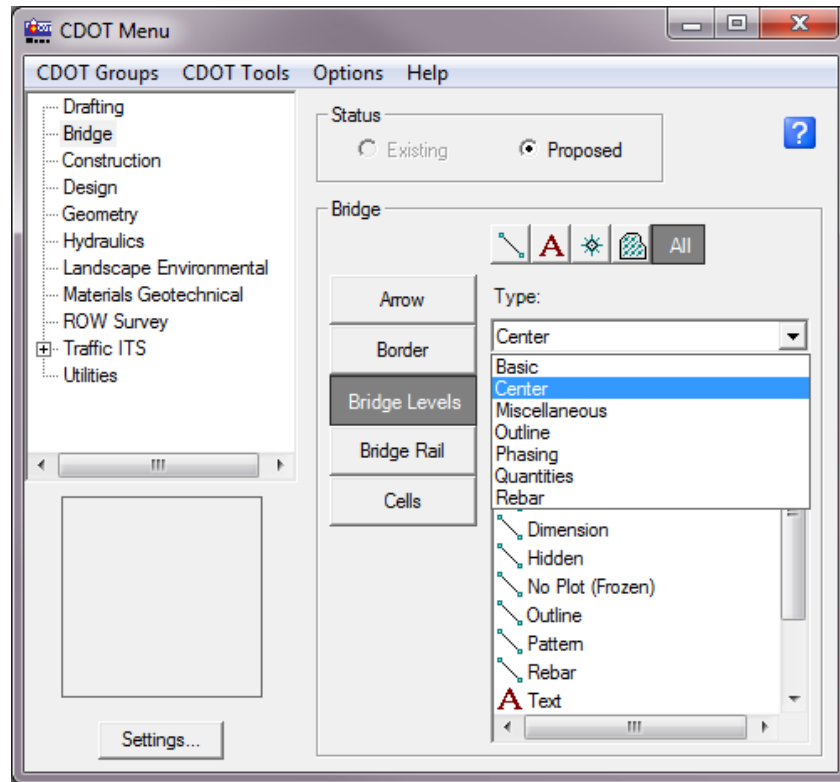

Fig. B.5-2- Bridge Level Selection from CDOT Menu
2. Use the CDOT menu by selecting the "Bridge" CDOT group> Bridge Levels> and using the pulldown "Type" menu to narrow the search. (Fig. B.5-2)